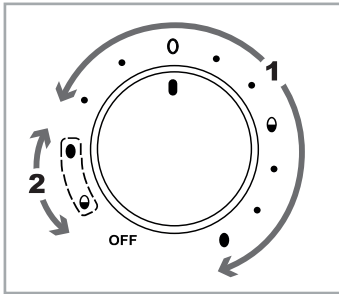

Fig. 1
- 1) Turn the control dial **10** to the position that corresponds to the desired hardness of the eggs. Use the setting range "1" (see fig. 1) with symbols and corresponding dots in front of it:
For the first cooking process, the setting range "1" with symbols and corresponding dots in front of it applies. For the second cooking process, the setting range "2" with symbols outlined by dashes applies (see fig. 1).
- 2) Set the control dial **10** to the position that corresponds to the softest degree of hardness of the eggs (the setting range "1" applies, see fig. 1). The control lamp **9** lights up and cooking begins.
- 5) Replace the lid **3** and turn the control dial **10** to the position of the symbols outlined by dashes (setting range "2", see fig. 1) corresponding to the desired hardness level for the eggs left in the appliance: